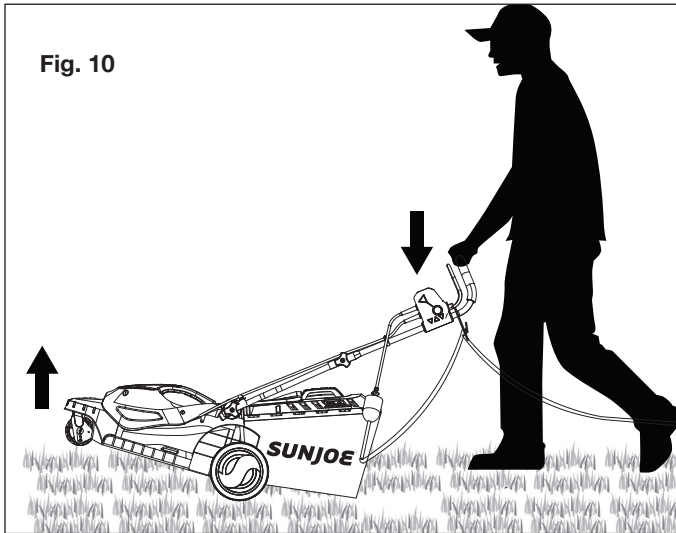

Fig. 10
4. Before starting the lawn mower, hold the soft grip with both hands and tilt the handle downward to slightly raise the front of the lawn mower. This will reduce the risk of lawn damage during start-up (Fig. 10).